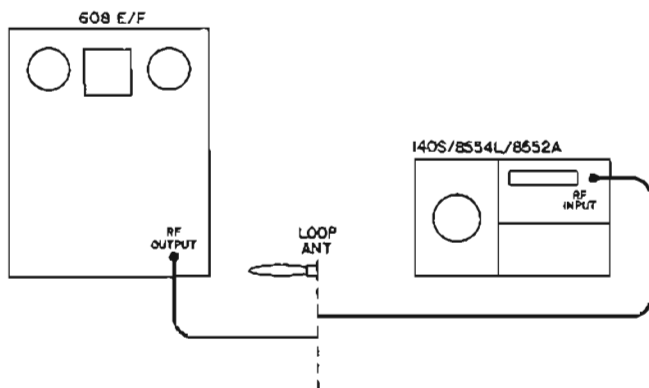

Figure 5-10. RF Leakage Test Setup
- a. Connect signal generator in test setup illustrated in Figure 5-10.